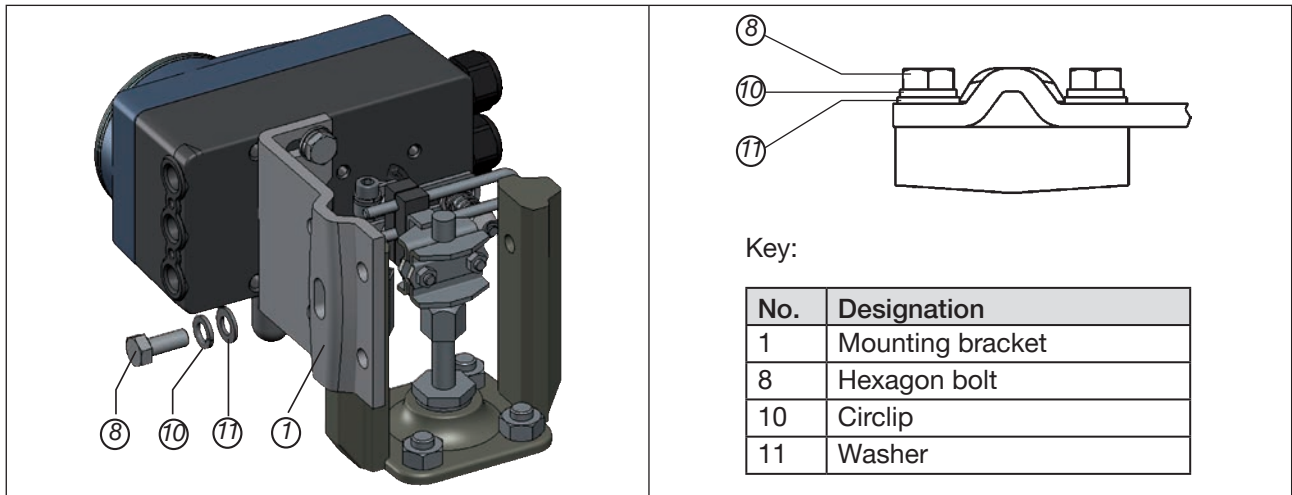

Figure 13: Attach positioner with mounting bracket; for actuators with cast frame
→ Attach mounting bracket to the cast frame with one or more hexagon bolts (8), washers (11) and circlips (10) (see “Figure 13”).